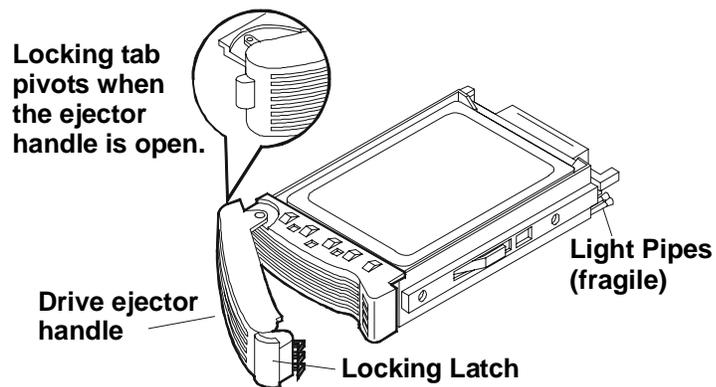

Figure 4-7. Ready Drive for Installation
1. To unlock the drive, push the locking latch in and then pull the ejector handle toward you (see Figure 4-7).